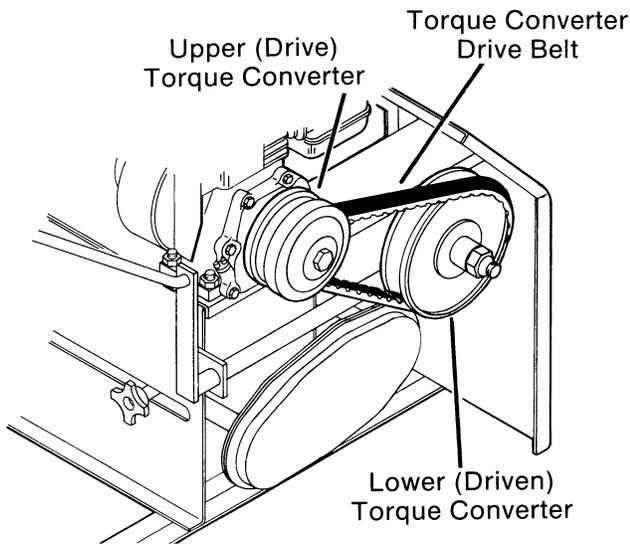

FIG. 5
2. Install drive belt around upper and lower torque converters. Secure engine with capscrews, lockwashers and hex nuts and torque nuts to 18-22 ft. lbs. (Fig. 5)